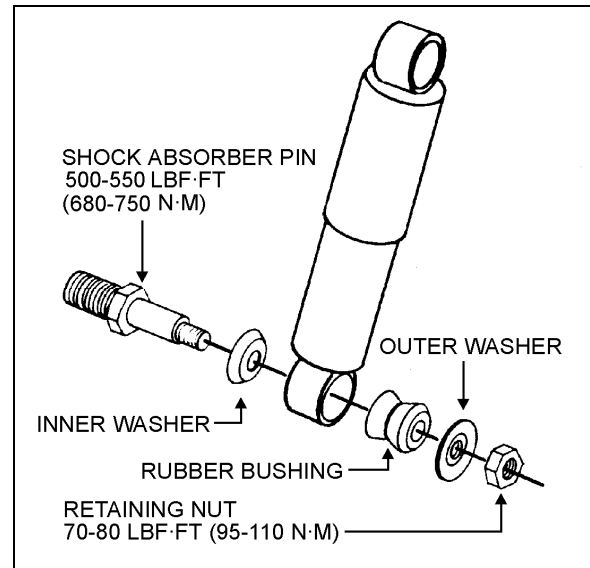

FIGURE 16: SHOCK ABSORBER
1. Remove nuts and washers from shock absorbers on upper and lower mounting pins, taking care to identify the inner and outer washers to ease reinstallation. Refer to figure 16 for details.
3. Place the inner washers (with washer convex side facing the shock absorber rubber bushing) on each shock absorber pin (Fig. 16).